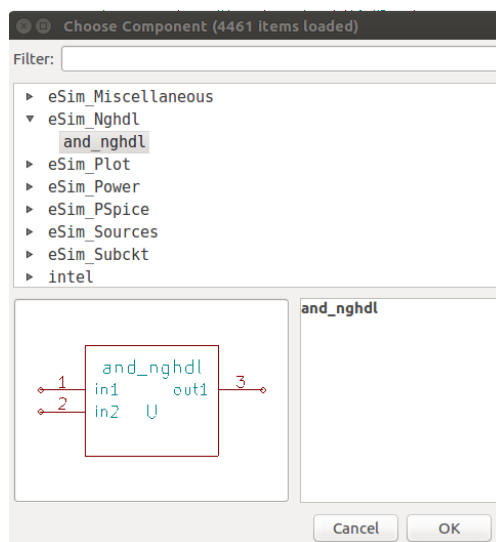
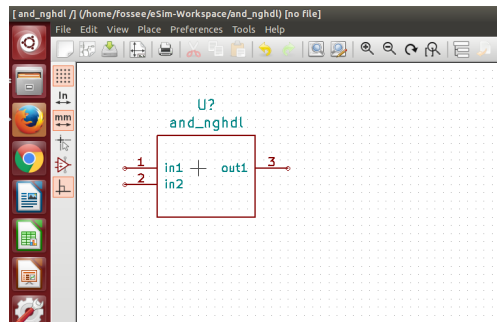

Figure 10.8: Locating the component in library
Figure 10.9: Placement of component on editor
3. Next step is to locate the component in `eSim_Nghdl` library as shown in Fig. 10.8 and place it on the schematic editor as shown in Fig. 10.9.